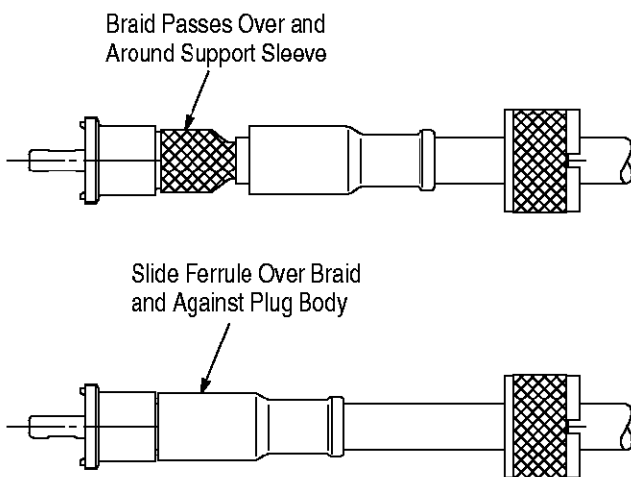

Figure 3
2. Insert the stripped conductor into the plug body. The braid in the cable must pass over and around the support sleeve of the plug. Refer to Figure 3.